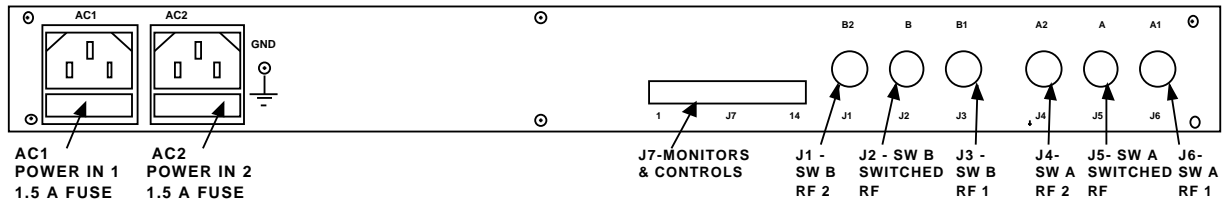

FIGURE 2.0 1582-70L REAR PANEL
TABLE 2.0 INPUT / OUTPUT CONNECTORS (FIGURE 2.0)
J1, J2, J3, J4, J5, J6 - RF CONNECTORS (FIGURE 2.0)
J7 - MONITORS AND CONTROLS CONNECTOR (FIGURE 2.0)
- d. Connect to signals on the MONITORS AND CONTROLS connector, J7, as desired (see Figure 2.0, Table 2.0)